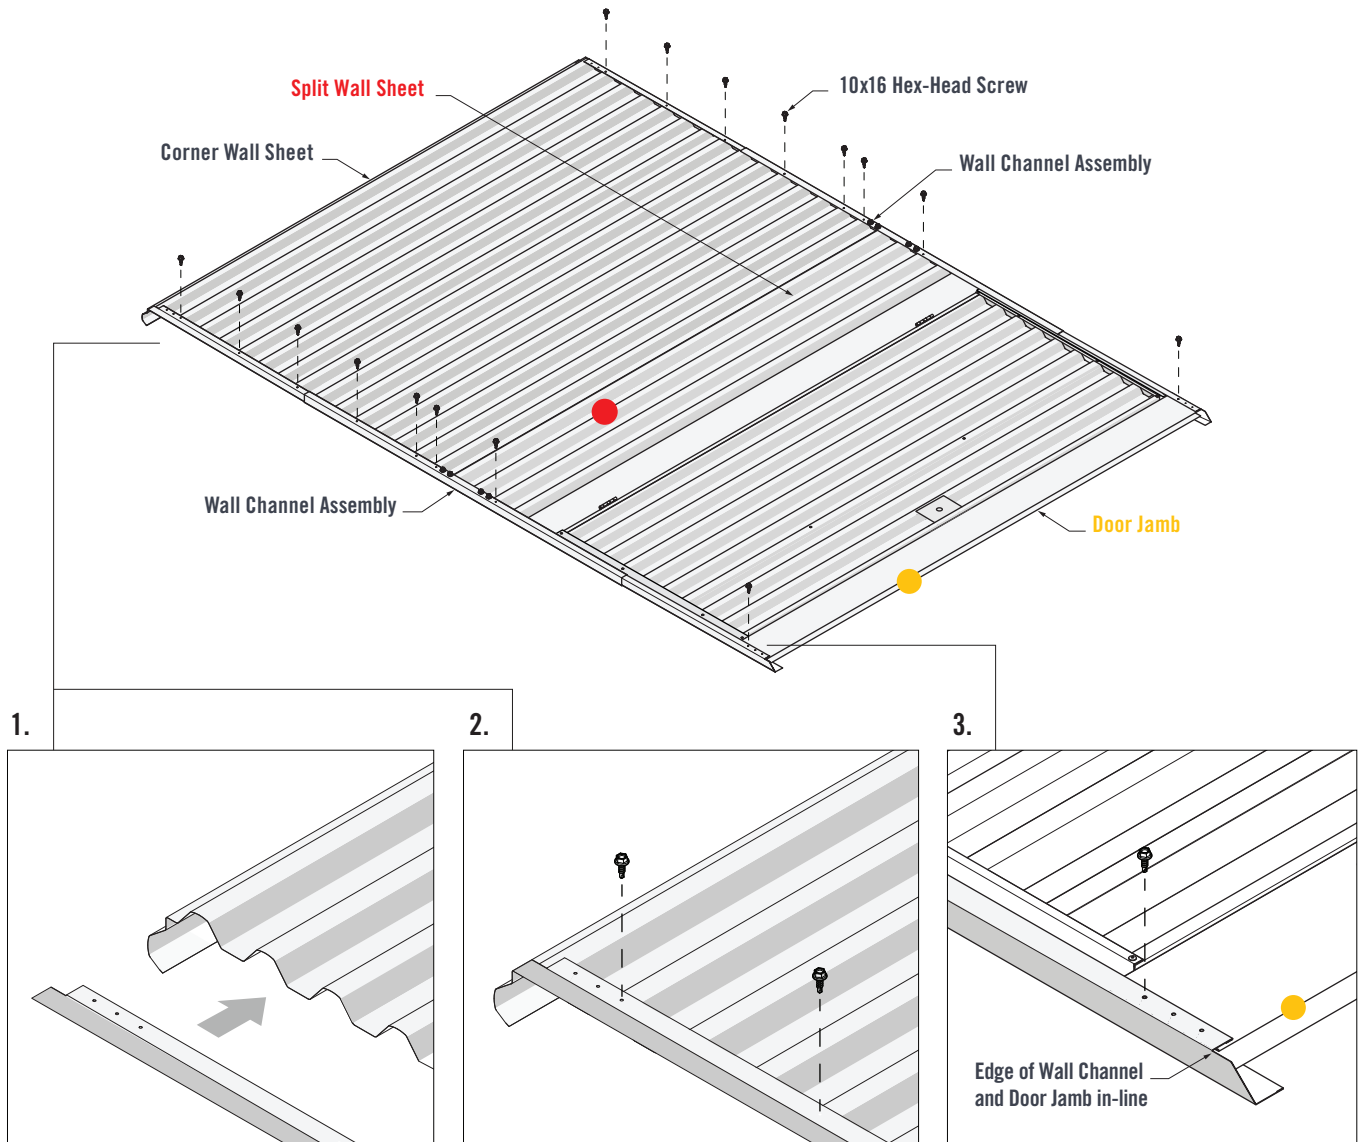

FIGURE 4.2
1. Fit two Wall Channel Assemblies over the lapped Wall Sheets and Door Jambs. The end of the Wall Channels should fit up against the end of the Corner Wall Sheet (Figure 4.2).
3. Ensure the edge of the Wall Channels and Door Jamb are in-line. Fasten one 10x16 Hex-Head Screw through the third pilot hole of the bottom and top Wall Channels and into the Door Jamb (Figure 4.2).